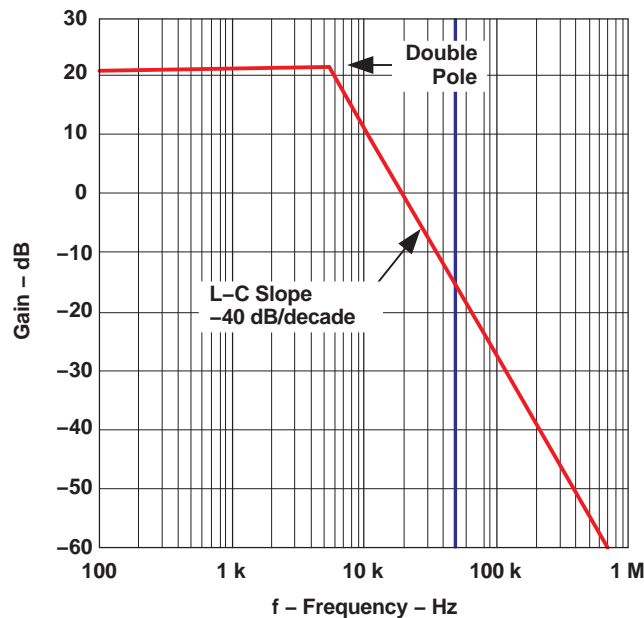

Figure 25. PWM and L-C Filter Gain
A Bode plot of the PWM and LC filter is shown in Figure 25.
4. From Figure 25, the required gain is calculated at 15.8 dB. Equation 45 sets the value for R_{PZ2} . A resistor for R_{PZ2} with value of 12.7 k Ω is used. C_{Z2} is calculated using Equation 49 and the desired frequency for the second zero, $C_{Z2} = 1475$ pF. A 2200 pF capacitor is used.